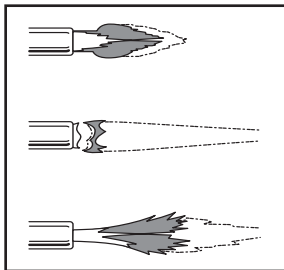

Figure 3: Flame Settings
4. Once the torch is lit, adjust the regulator (Figure 3).